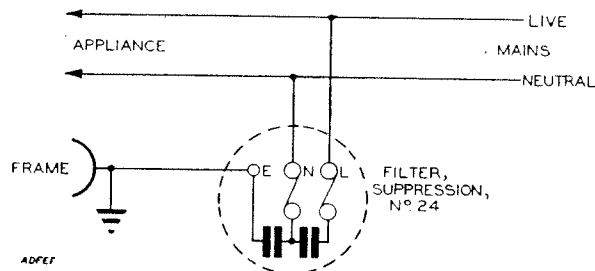

FIG. 2—METHOD OF CONNECTING CAPACITORS TO A.C. OR D.C. PERMANENTLY EARTHED APPLIANCES
18. The practical methods of connecting capacitors to supply systems and permanently-earthed appliances are shown in Figs. 2, 3, 4 and 5, and are dealt with in the following paragraphs. For the purpose of illustration the capacitors in these figures are represented by "Filters, Suppression, No. 24" (which will eventually replace "Units, Capacitor, No. 7Y"). This filter consists of two Group II capacitors, rated at 250 V. A.C., in a single container of moulded material. Fuses are incorporated and the terminals are marked E (earth), N (neutral), and L (live). "Filter, Suppression, No. 23" is similar, with the exception that fuses are not fitted. Capacitors for the two recognised circuit positions should comply with the current edition of B.S. 613 (see E 0010).
19. **2-wire D.C. or A.C. systems.** In these systems, one conductor is normally earthed at the supply station or sub-station. One conductor is therefore 'neutral' (i.e. approximately at earth potential) and the other line 'live'. Capacitors for appliances supplied from these systems are connected as shown in Fig. 2.
21. For lighting and small-power purposes, one outer and the neutral are led into the consumer's premises. This arrangement may be regarded as a 2-wire D.C. supply and the capacitors may be connected to appliances as shown in Fig. 2.
22. Large machines are commonly supplied from the outers at the double voltage and Group II capacitors of suitable voltage rating may be connected as in Fig. 2.
25. For lighting and small-power purposes (i.e. domestic appliances and fractional-H.P. motors), one line conductor and the neutral are led into the consumer's premises; this arrangement may be regarded as a 2-wire A.C. supply and capacitors may be connected as shown in Fig. 2.